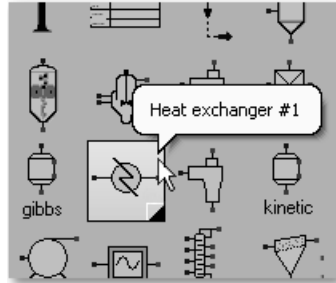

Figure 11-02: The pop-up label that identifies the UnitOp icon
- Now place the two heat exchangers on the flowsheet. On the All UnitOps palette, point to the **Heat Exchanger** icon until its pop-up label appears (see Figure 11-02).